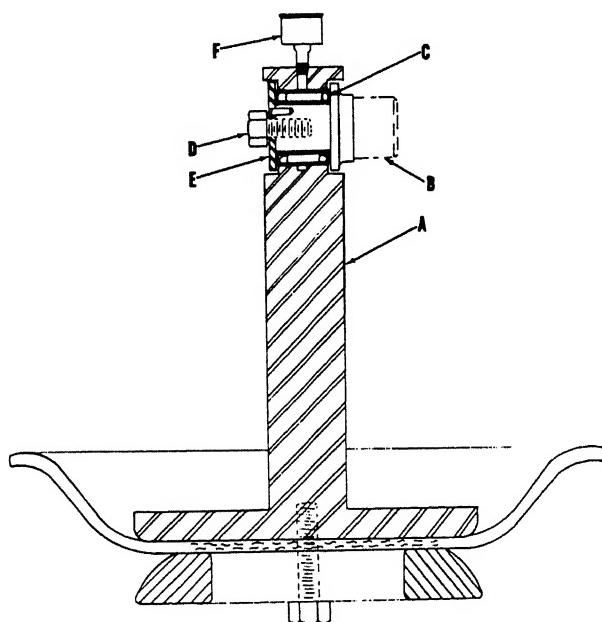

FIGURE 5
- B. Remove two brass nuts with washers (R) and two brass machine screws (K). Washer (L) and weight (P) may be pulled off rubber flap valve (N).
- C. Replace flap valve (N). Assemble items (K) thru (R) and place on pump body over the studs. Place valve body on pump over studs and secure with the $\frac{5}{16}$ " hex nuts.
21. Connecting Rod Needle Bearing Repair (Fig. 5)
Reference for Fig. 5